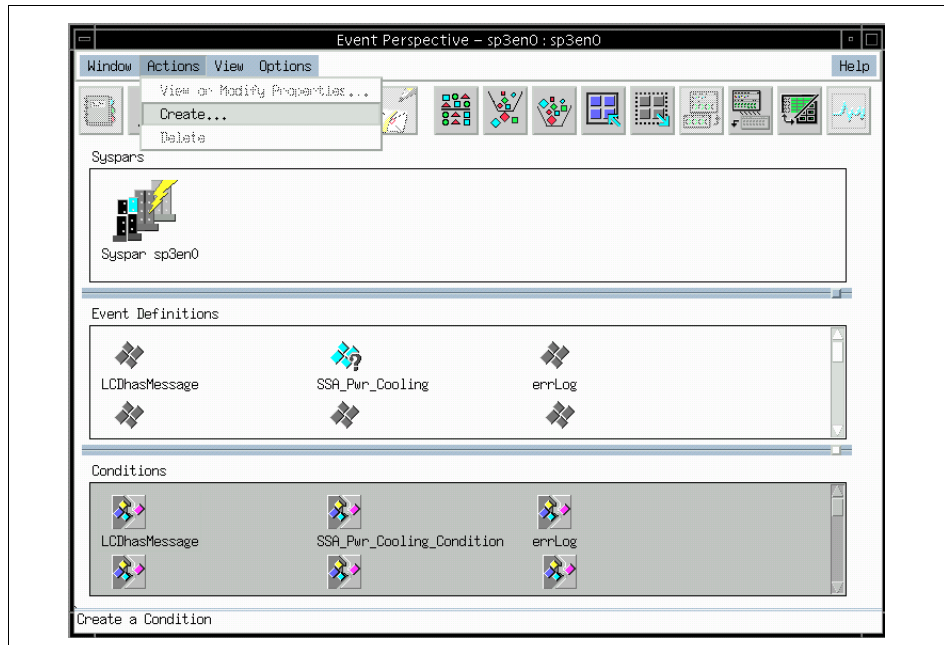

Figure 142. Create Condition Option from Event Perspectives
**Step 4** Create the condition. To create the condition, let us move the focus to the conditions pane on Event Perspective and then select **Actions->Create...**, as shown in Figure 142.